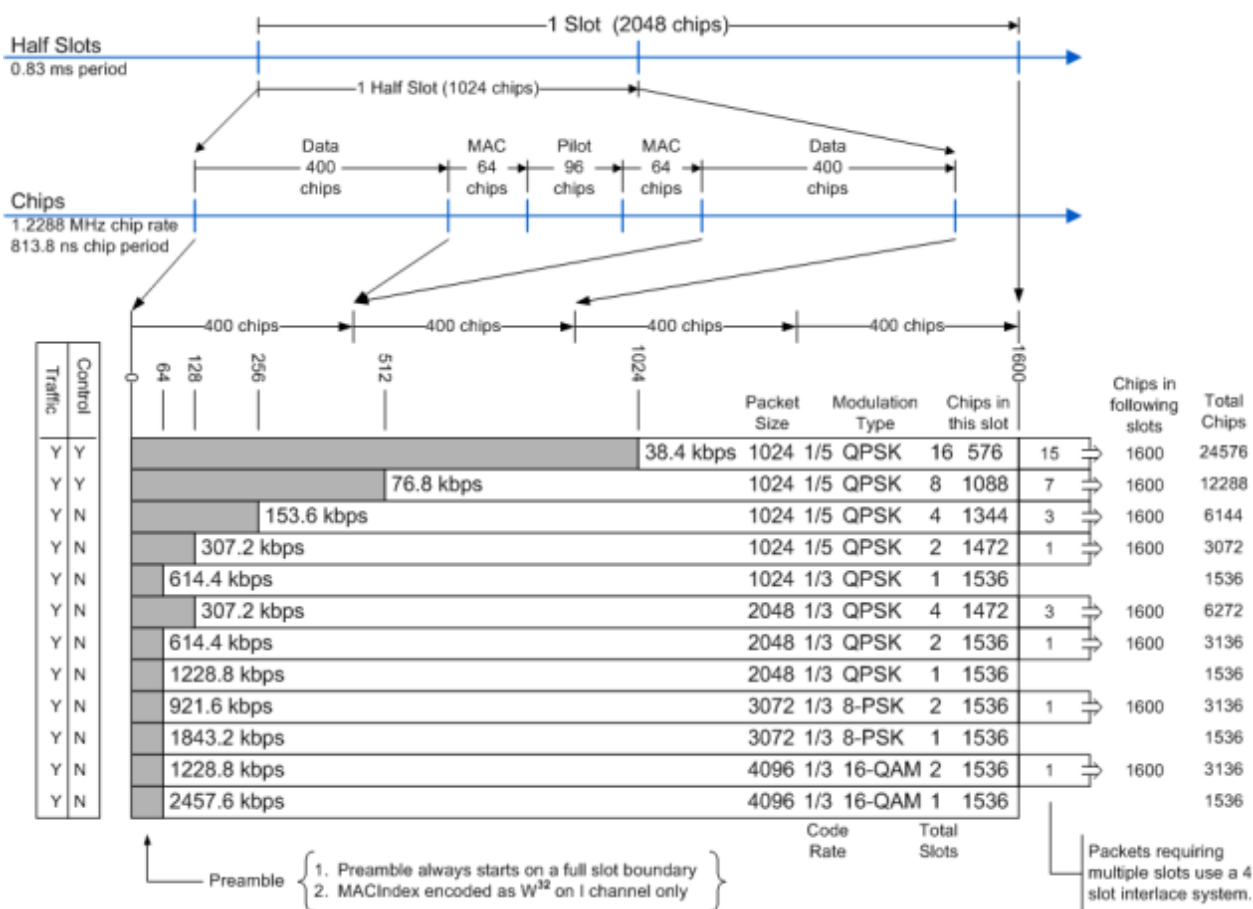

Fig. 4-1: Slot structure, chip distribution and preamble lengths in 1xEV-DO BTS application
The 1xEV-DO standard defines the BTS channel types. 1xEV-DO forward link signals contain 4 channel types which are sent exclusively at specific times (see also figure 4-1):
- MAC:** The Medium Access Control channel type is 64 chips in front of and behind the PILOT. The MAC channel type contains the reverse activity (RA) channel and the MAC reverse power control (RPC) channels with which the power of the active terminals is controlled. The MAC indices described in the standard MAC can be transformed into Walsh codes very easily. The analysis for the MAC channel type is performed with spreading factor 64. BPSK-I and BPSK-Q modulation are used.
- DATA:** The DATA channel type is located with a length of up to 400 chips at the beginning and end of each half slot. The useful data is transmitted in it. As shown in figure 4-1, there are packets that transmit their data distributed over 1, 2, 4, 8 or 16 slots, depending on the transmission rate. Initially, a PREAMBLE range is transmitted, being between 64 and 1024 chips long - followed by the data. If more than one slot is required for transmission, the other data of this data packet follows at intervals of four slots, then without another preamble. In the DATA channel type, QPSK, 8-PSK and 16-QAM modulation types are used. Analysis is performed with a spreading factor of 16.